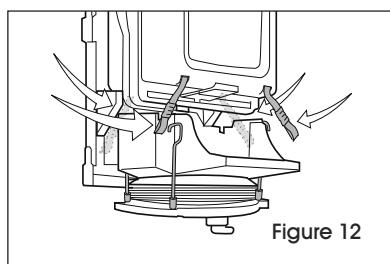

Figure 12
- Compress the waste reservoir by pushing it forward. Slide all four straps (two front and two rear) into the hooks, making sure the straps are not twisted. Visually inspect all four corners of the bottom plate, making sure they are equal in height. (See Figure 12)